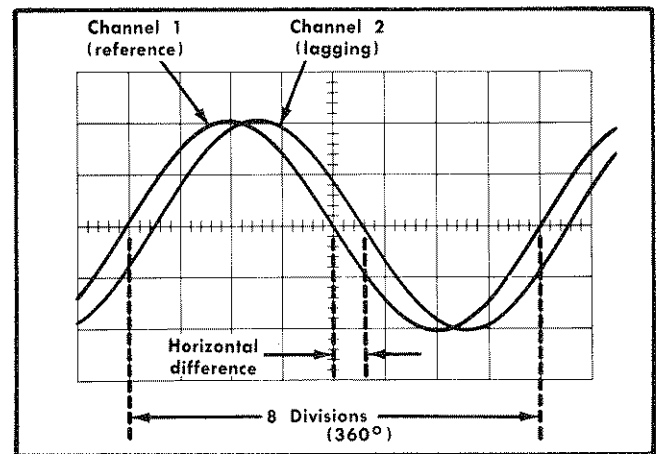
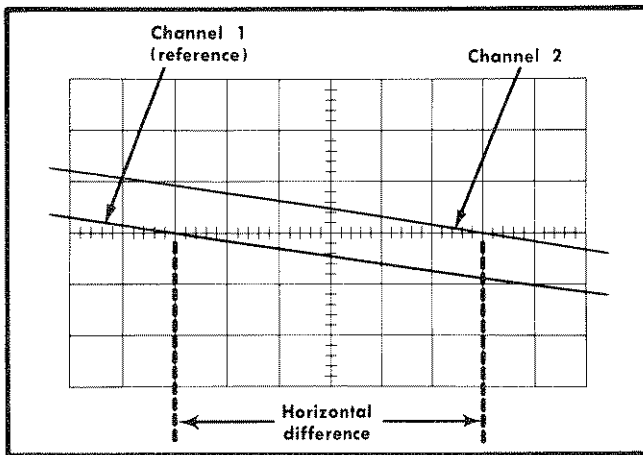

Fig. 2-24. Measuring phase difference.
Fig. 2-25. High resolution phase-difference measurement with increased sweep rate.
10. Turn the A VARIABLE control until one cycle of the reference signal (Channel 1) occupies exactly eight divisions horizontally (see Fig. 2-24). Each division of the graticule represents 45° of the cycle ($360^\circ \div 8 \text{ divisions} = 45^\circ / \text{division}$). The sweep rate can be stated in terms of degrees as 45°/division.
Example. Assume a horizontal difference of 0.6 divisions with a sweep rate of 45°/division as shown in Fig. 2-24.
Example. If the sweep rate were increased 10 times with the magnifier, the magnified sweep rate would be $45^\circ / \text{division} \div 10 = 4.5^\circ / \text{division}$. Fig. 2-25 shows the same signals as used in Fig. 2-24 but with the MAG switch set to $\times 10$. With a horizontal difference of six divisions, the phase difference is: